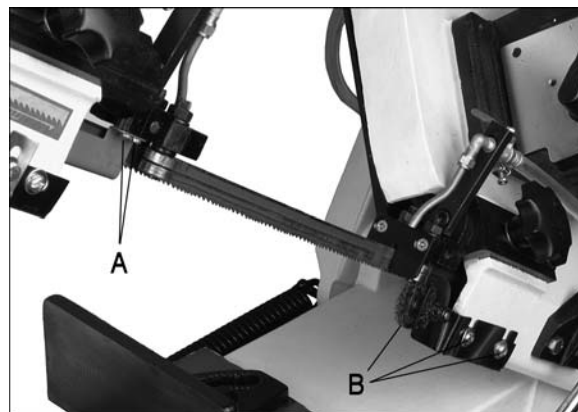

Figure 19
3. Remove red blade guard by removing two screws (A, Figure 19).
4. Remove brush assembly (B, Figure 19) by removing two screws.
The chip brush (B, Figure 19) must be properly adjusted and maintained in working condition; otherwise damage to blade can occur. Adjust the brush so that its bristles overlap the blade.